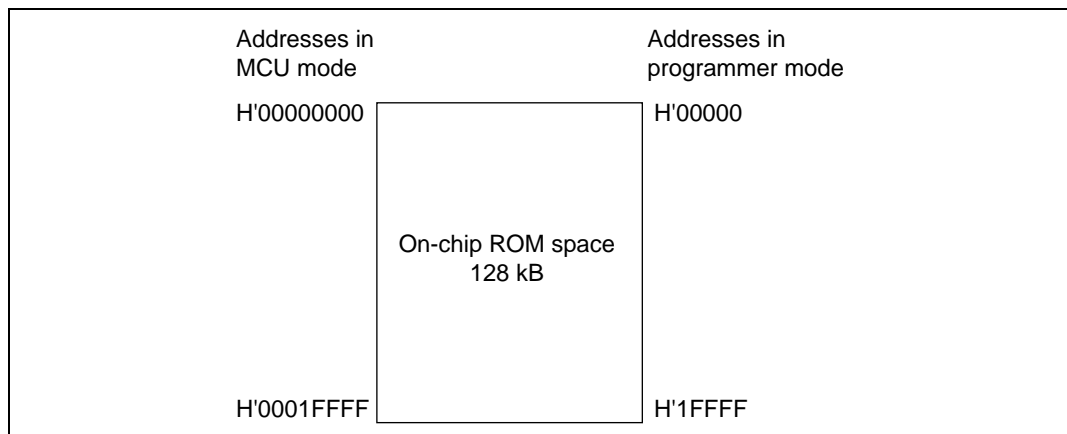
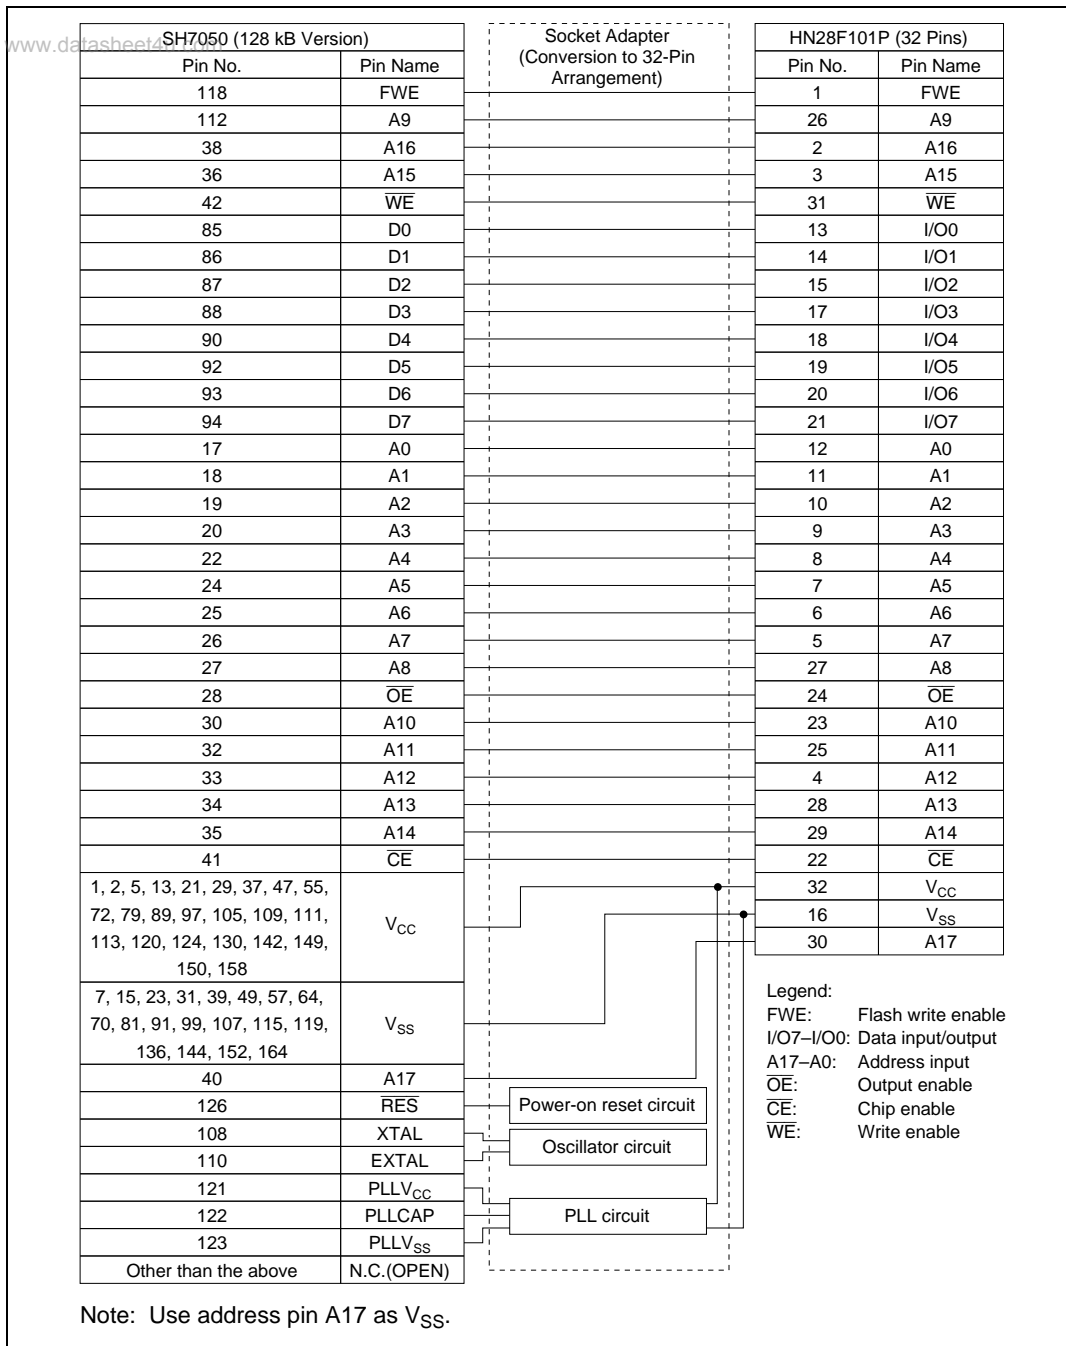

Figure 18.12 On-Chip ROM Memory Map
Figure 18.13 Socket Adapter Pin Correspondence Diagram
Connect the socket adapter to the chip as shown in figure 18.13. This will enable conversion to a 32-pin arrangement. The on-chip ROM memory map is shown in figure 18.12, and the socket adapter pin correspondence diagram in figure 18.13.
4. Memory address transfer is performed in the third cycle (figure 18.13). Do not perform transfer after the second cycle.